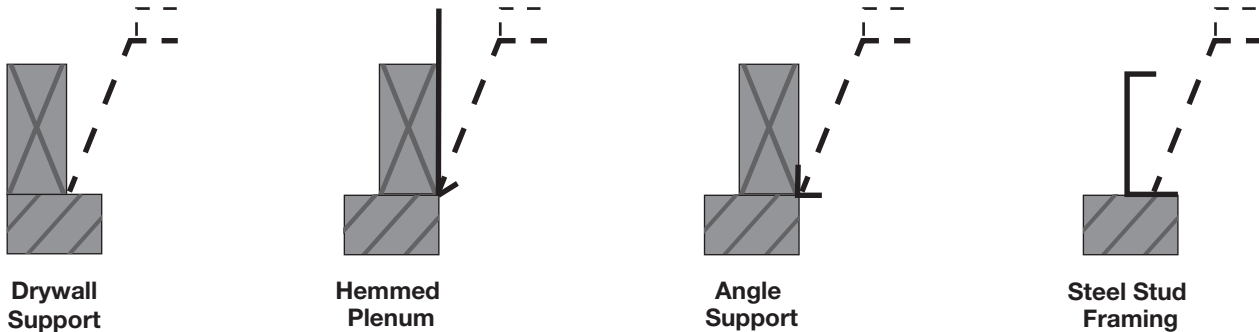

Figure 14 (Step 3B): Hanger Support Options
- B. There are several ways to support the hanger brackets – see Figure 14.